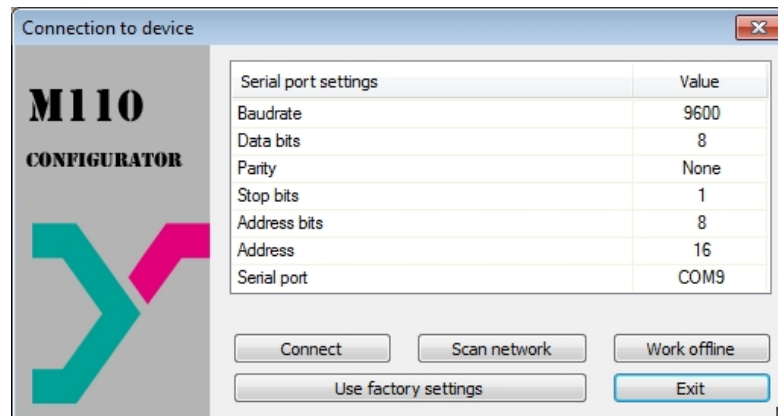

Fig. 7.1 M110 Configurator start window
- In the window 'Connection to device' enter the values from the Table 7.1 or click the key 'Use factory settings' (see Fig. 7.1)